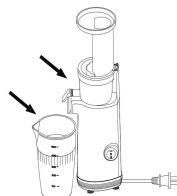

Fig 4
4. Place the juice container and the pulp container under the relevant spouts. (Fig 4)